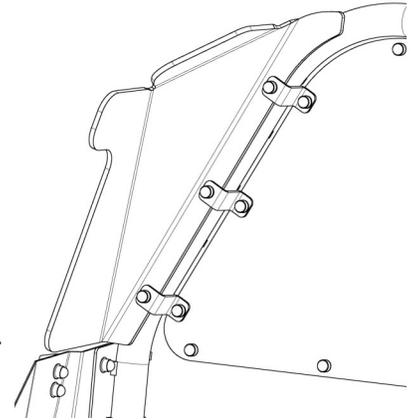
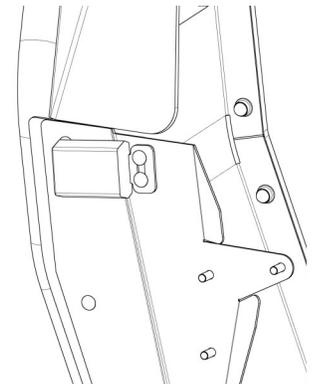

Figure 17
Figure 18
1. Locate the P1300 Partition Wing, the (3) Wing Brackets [3WIN000000], (6) [3X61] 1/4-20X3/4" carriage bolts, and (6) [3X16SZ] small whiz nuts.
2. Put the long flange of the Wing Brackets against the front face of the Wing and install (3) of the carriage bolts from the wing side with (3) corresponding whiz nuts against the brackets. Tighten down the nuts to pull the carriage bolts into the wing and then loosen the nuts so that the brackets are able to move.
3. Place the short flange of the Wing Brackets against the Partition window and align the holes in the brackets with the (3) missing fasteners in the window. Insert the (3) remaining carriage bolts from the back side of the partition and loosely secure the Wing in place with whiz nuts against the Wing Brackets. The Wing will be adjusted and tightened in a later section. Figure 17 shows the installed wing.
4. Locate the OSB Park Buckle [3OSB000001 or 3OSB109RP-1 for retractable belts], (2) [3X36] carriage bolts, and (2) [3X16Z] whiz nuts.
5. Position the Park Buckle in the desired location on the Partition Mounting Plate and mark (2) holes locations.
6. Drill the locations marked in the previous step with a 9/32" drill bit and then install the Park Buckle with a 7/16" socket and the prepared hardware. Figure 18 shows the recommended location for the Park Buckle.